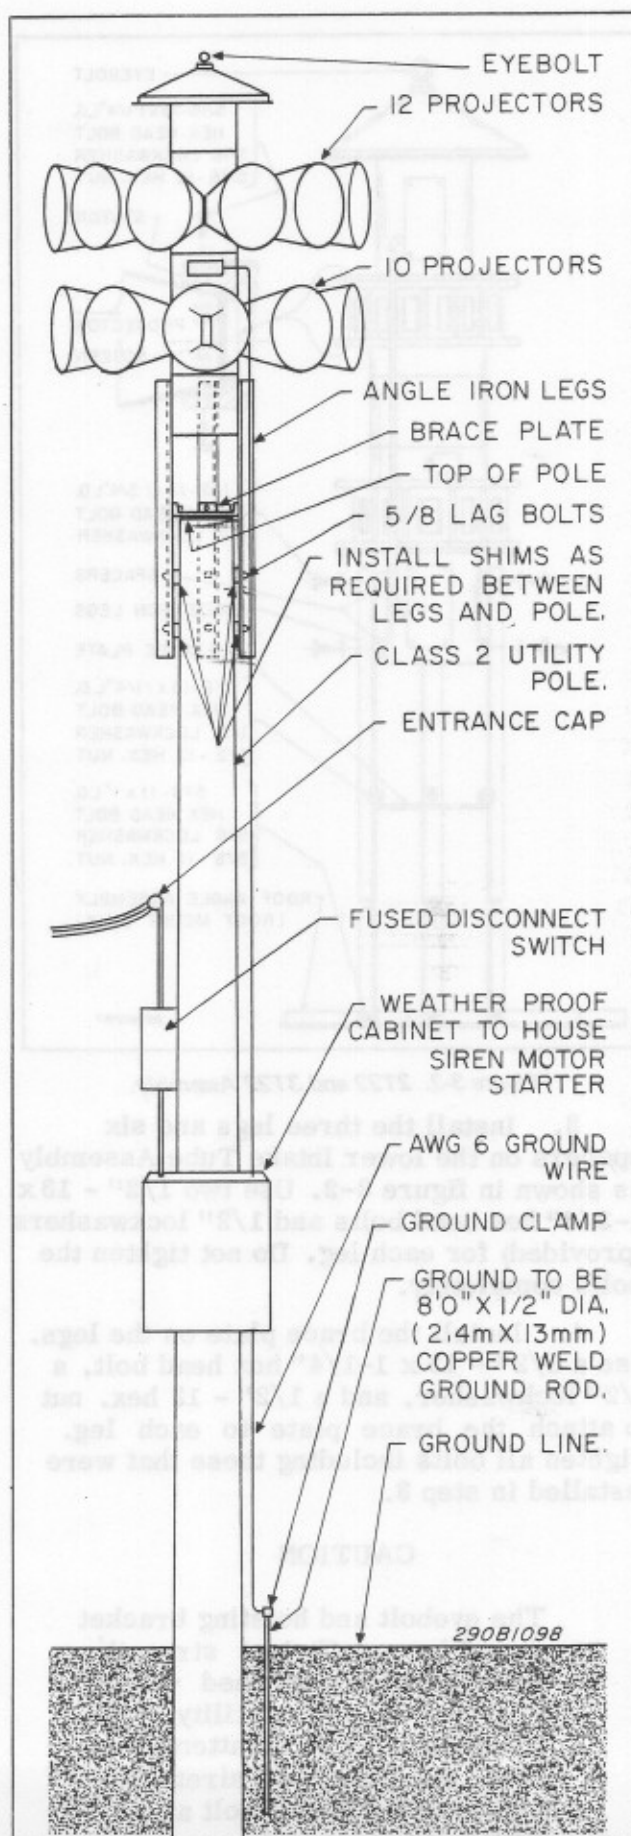

Figure 3-1. Pole Mounted Installation.
A typical 2T22 or 3T22 pole-mounted installation is shown in figure 3-1. The siren is mounted on a Class 2 utility pole 35-40 feet above the ground. The siren is attached to the pole by means of a stand that is provided by Federal. The stand consists of three legs and a brace plate. The brace plate is attached to the legs approximately half-way along the height of the legs. The brace plate insures that there is sufficient clearance between the top of the pole and the siren lower air intake. The clearance between the top of the pole and siren is necessary to allow sufficient air to enter the lower rotor and stator. If the space between the lower air intake tube and the top of the pole is not present, or is too small, the output sound level of the siren will be significantly impaired. In addition, the distinctive two-tone characteristic of the signal may be eliminated or reduced.
7. If necessary, insert shims between the siren legs and the pole. Bolt the siren legs to the pole using two 5/8" lag bolts, at least 4-inches long for each leg, as shown in figure 3-1.
3. Install conduit between the disconnect switch and the electrical power source. If the siren is installed on a utility pole, add an entrance cap to the end of the conduit, as shown in figure 3-1.
5. Three phase (A) models only. Route two AWG 12 insulated wires from terminals V and 3 on the motor starter to P1 and P2 in the siren motor junction box. Disconnect the jumper wire between terminals V and 3.